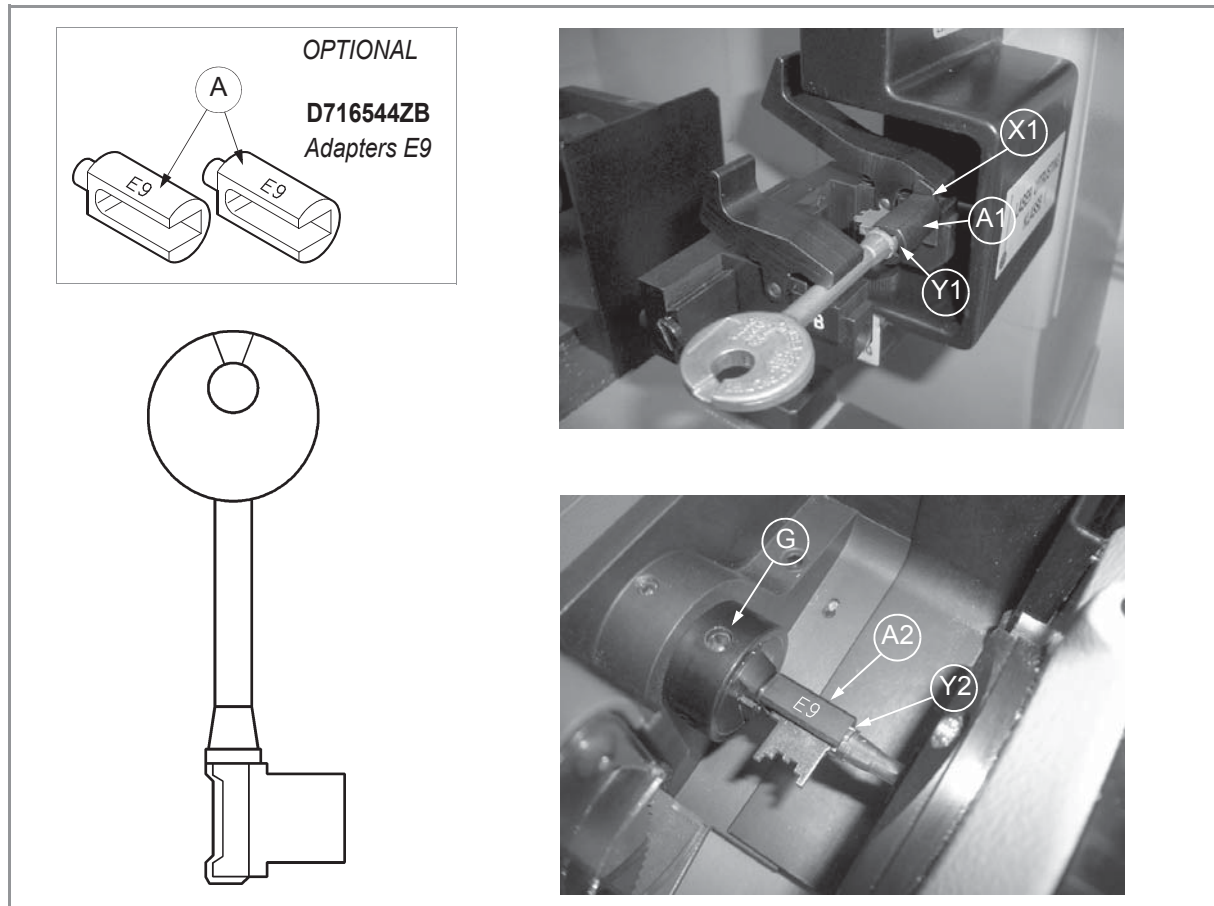

Fig. 36
The Chubb adapter set is required for the code-cutting of Chubb keys (CHUBB RKS) with square section stems (fig. 36). It comprises 2 identical adapters (A) for the optic reader clamp and the swivel clamp.
- 3) Place the second adapter (A2) into the standard tailstock and tighten the grub screw (G) (fig. 36).